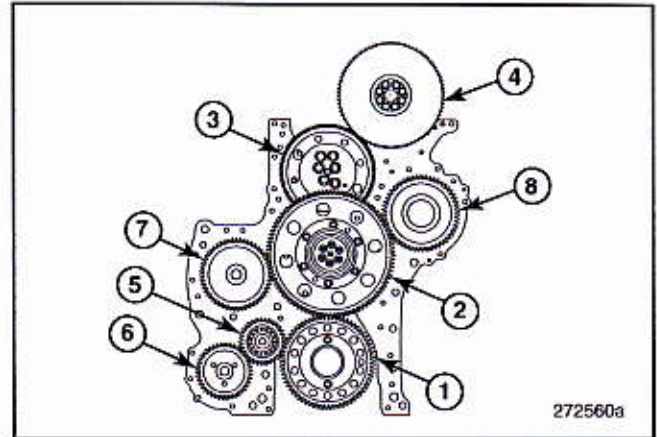

Figure 260 — Adjustable Idler Gear
3. Assemble the adjustable idler gear (item 3 in Figure 260), hub, bushing, thrust washer and fasteners on the plate. Hand tighten the fasteners.